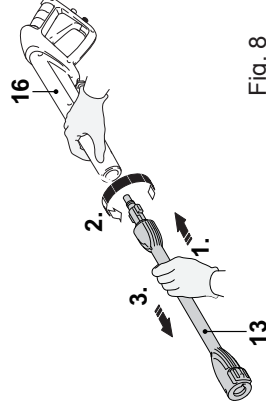

Fig. 8
Press the accessory towards the spray gun (16) and turn it anti-clockwise to remove it. (Fig. 8).